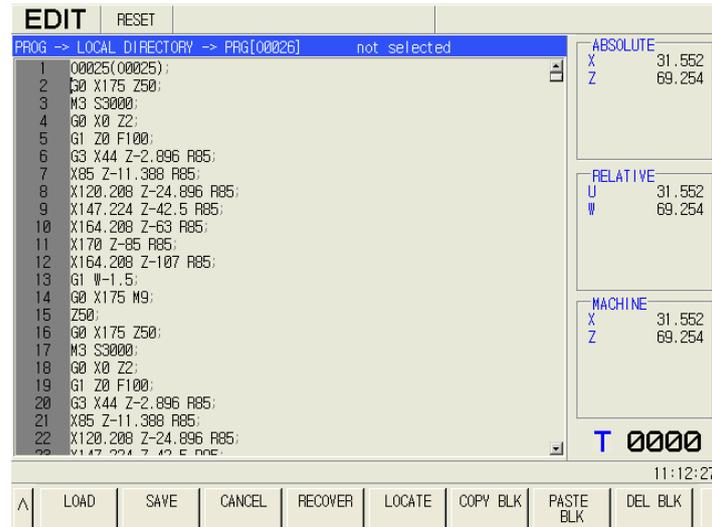

Fig.4-4
(3) Press **OPEN** to open the codes of the selected program in the screen, which is shown in Fig.4-4: